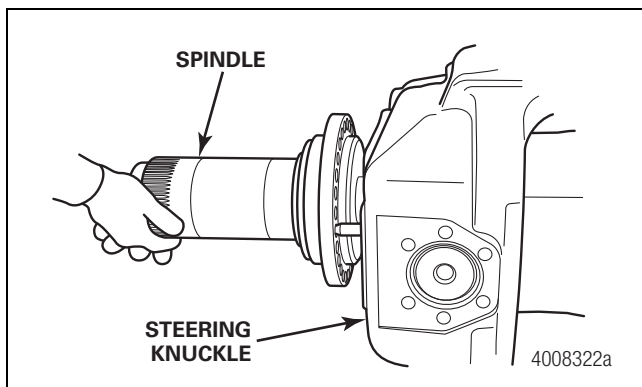

Figure 9.9
13. Use steel rods or studs to help align the spindle to the knuckle. Figure 9.9.